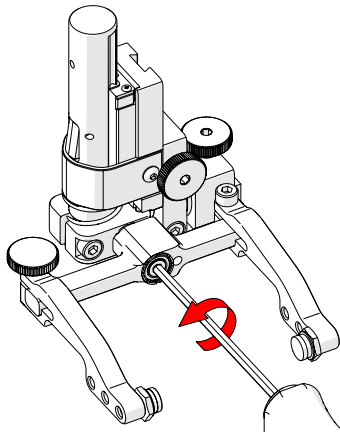

Fig. 128 - Unscrew yoke pivot screw
2. Using the supplied 3 mm hex driver (Fig. 24), unscrew the yoke pivot screw and remove the yoke (Fig. 128).